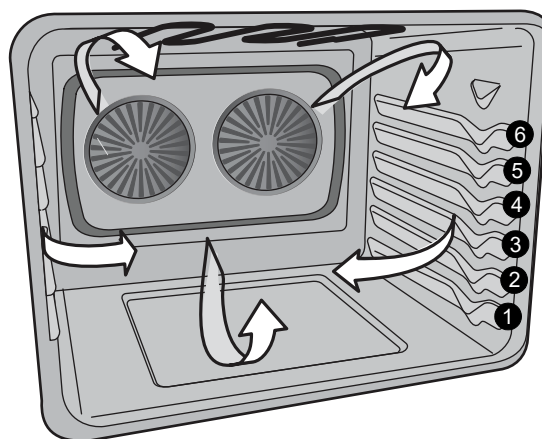

Figure 7: Rack positions
2. Place pan in oven on rack position 2 Glide rack or 3 Flat rack (Figure 7) and close oven door. AccelaHeat is designed for baking on a single oven rack.